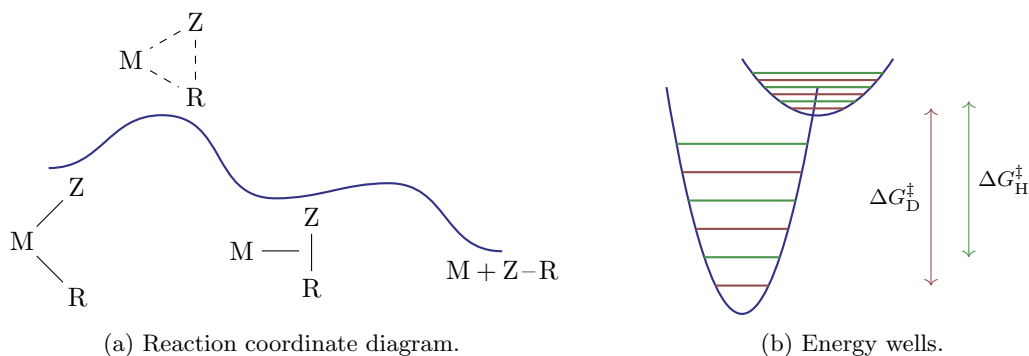

Figure 6.8: Normal KIE.
- Primary take away: Directed C–H activation is a very powerful technique because you can put these C–H bonds in close proximity, but one of the biggest challenges is forming σ adducts; in doing this, we can observe the weird inverse KIEs of Figures 6.8 and 6.9.